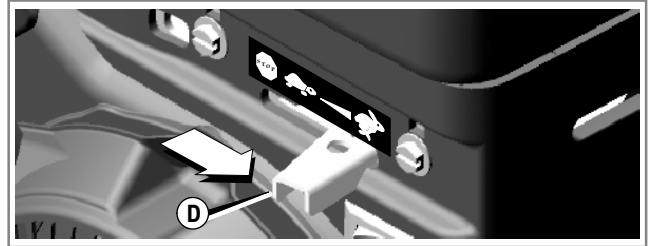

Figure 7: Throttle Control Lever
4. Move the throttle control lever (D), if equipped, to the FAST  position. Operate the engine with the throttle control lever in the FAST position (Figure 7).